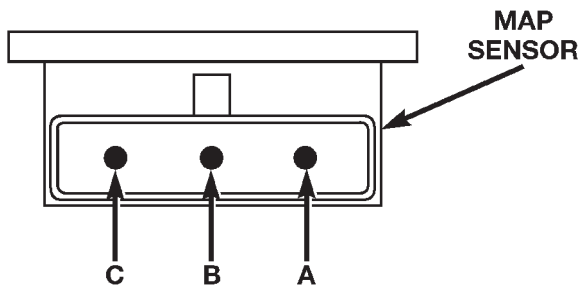

Fig. 34 MAP Sensor Connector Terminals—Typical
(2) Test MAP sensor output voltage at MAP sensor connector between terminals A and B (Fig. 34). With
(3) Test Powertrain Control Module (PCM) cavity A-27 for same voltage described above to verify wire harness condition. Repair as necessary.
(4) Test MAP sensor supply voltage at sensor connector between terminals A and C (Fig. 34) with ignition ON. The voltage should be approximately 5 volts ($\pm 0.5V$). Five volts ($\pm 0.5V$) should also be at cavity A-17 of the PCM wire harness connector. Repair or replace wire harness as necessary.
(5) Test the MAP sensor ground circuit at sensor connector terminal—A (Fig. 34) and PCM connector A-4. Repair wire harness if necessary.